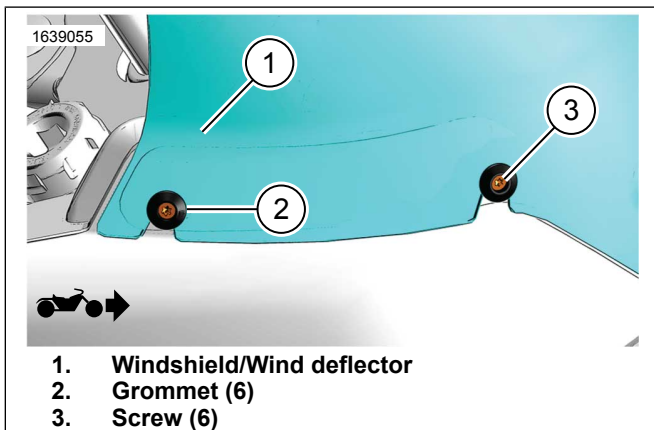

Figure 2. Windshield/Wind Deflector Remove/Install
1. See Figure 2. Remove screws (3). Retain for later use.
2. See Figure 2. Remove windshield (1). See service manual.
1. See Figure 2. Position **new** windshield/wind deflector (1) and loosely install OE screws (3).
1. See Figure 2. After washing and drying windshield, make sure that windshield/wind deflector (1) is properly seated in grommets (2) prior to operating vehicle.